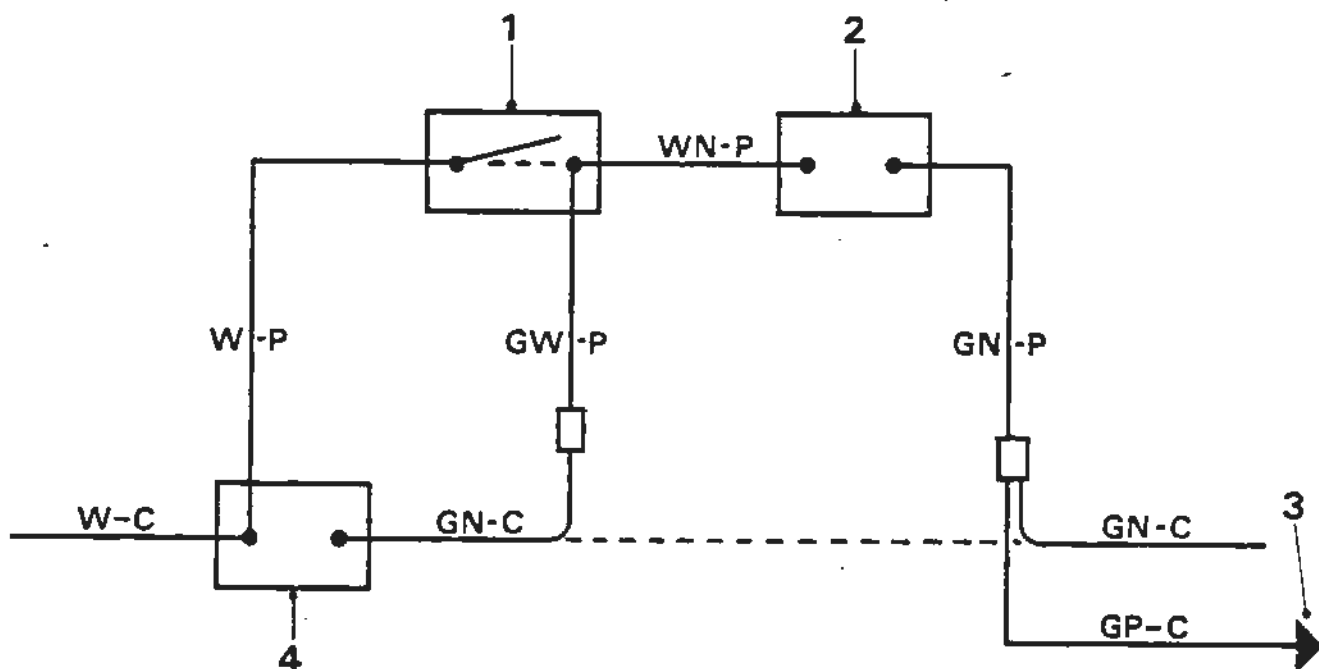

FIGURE 3 - WIRING ADDITIONS IN FUSEBOARD AREA
C FUSEBOARD CHANGES (See Fig. 3)
- 1 Using Figure 3 as a guide break the GN-C cable and solder female Lucar connectors to the bared ends.